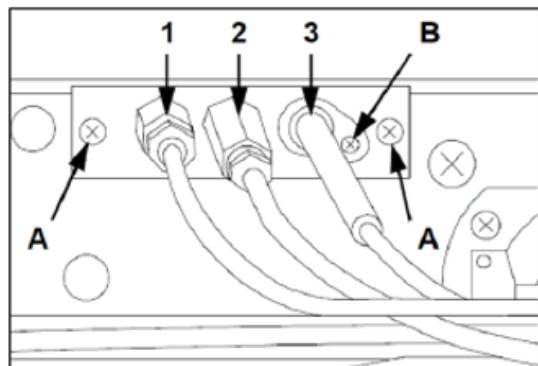

FIG.18
- Unscrew the thermocouple with an appropriate spanner (FIG.18-Ref.1);
- Unscrew the 2 supporting screws (FIG.18-Ref.A) fix the new pilot;
- Fix the new pilot following the above procedure (FIG.18-Ref.2).
- Remove the plug unscrewing the screw (FIG.18-Ref.B);
- Fix the new plug (FIG.18-Ref.3) following the above procedure.